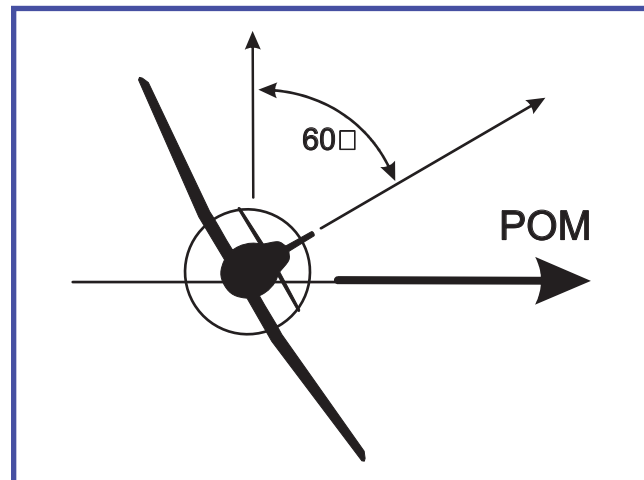
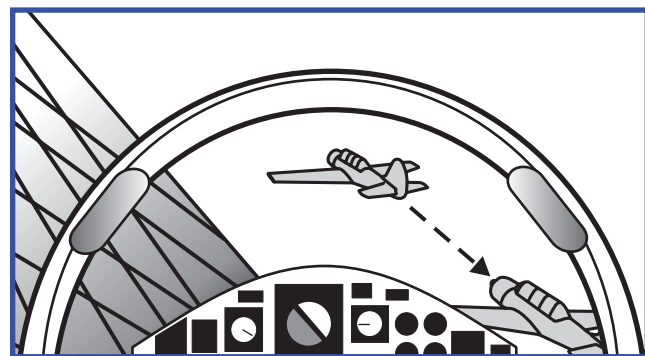

Figure 3.4 Plane Of Motion (POM)
Figure 3.5 Positive Closure Creates Aft Los Rate
An imaginary plane defined by an aircraft's *actual* flight path through the sky. Based on bank angle and load factor (G), an aircraft's POM may be horizontal, vertical or any degree in-between. Reference figure 3.5 for an aircraft at 60 degrees of bank and 2.0 G, resulting in a level POM. Figure 3.4
The rate of movement of an object, such as another aircraft, across the canopy. When overtaking another aircraft through lead pursuit and/or airspeed advantage, an aft LOS rate will be observed. Likewise, if falling behind due to lag pursuit or airspeed disadvantage, a forward LOS rate will be observed. The LOS rate provides a valuable clue to the wingman in recognizing and controlling closure during the rejoin (figure 3.5, 3.6, 3.7, 3.8).